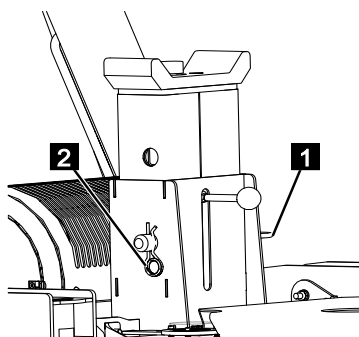

Fig. 113
6. Insert the fastening bolt (Fig.113/1) and secure it with the spring cotter pin (Fig.113/2).